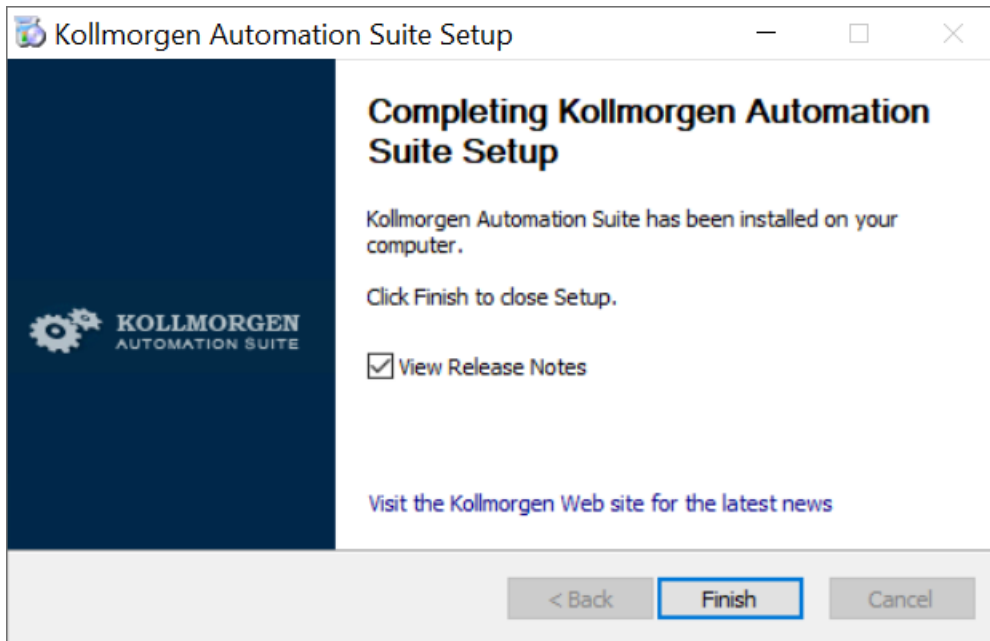

Figure 3-9: Completing KAS Setup window
- When the installation is complete, the **Completing KAS Setup** window opens. (Figure 3-9)